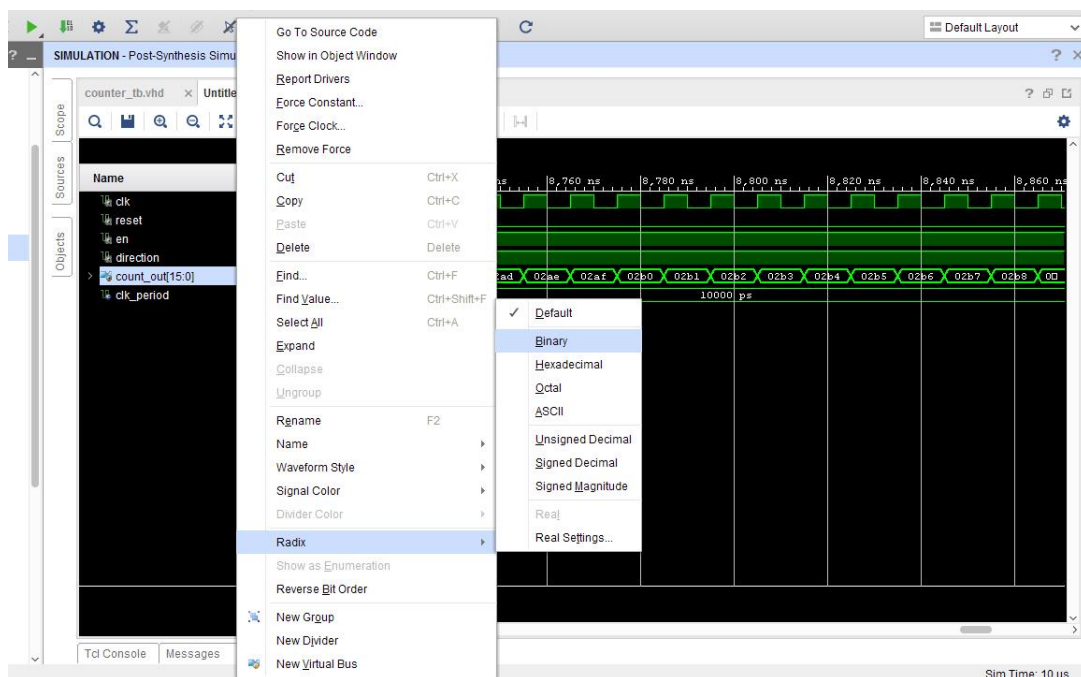

Figure 28
10. If instead of the hexadecimal notation you want to see the value of each one of the signal's vector bits, highlight **count_out[15:0]** to select it and right click to open a drop-down menu. In this menu choose **Radix → Binary** (Figure 28)